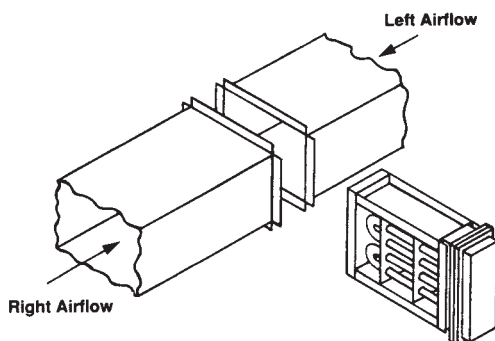

Figure 71.
**Horizontal airflow direction** is defined in Figure 71.